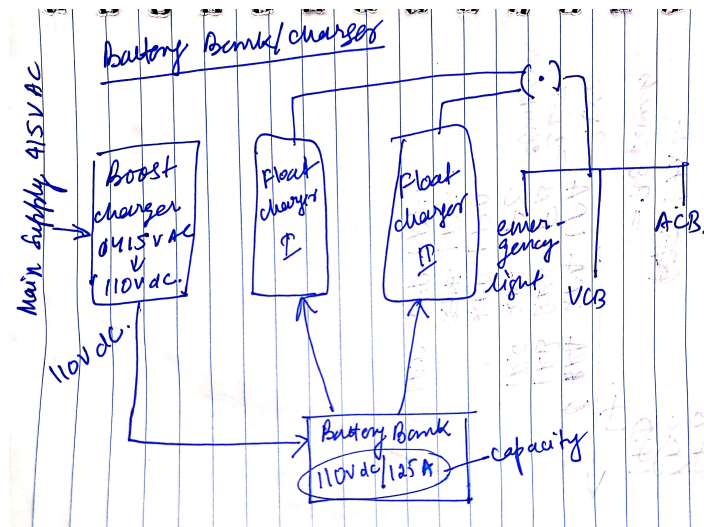

Figure 1.6: Schematic diagram of a Switch Fuse Unit
- All the control signals for the VCB and ACBs need 110 V DC supply as does the emergency lights. This is supplied by a DC distribution system as shown in Fig. 1.6.